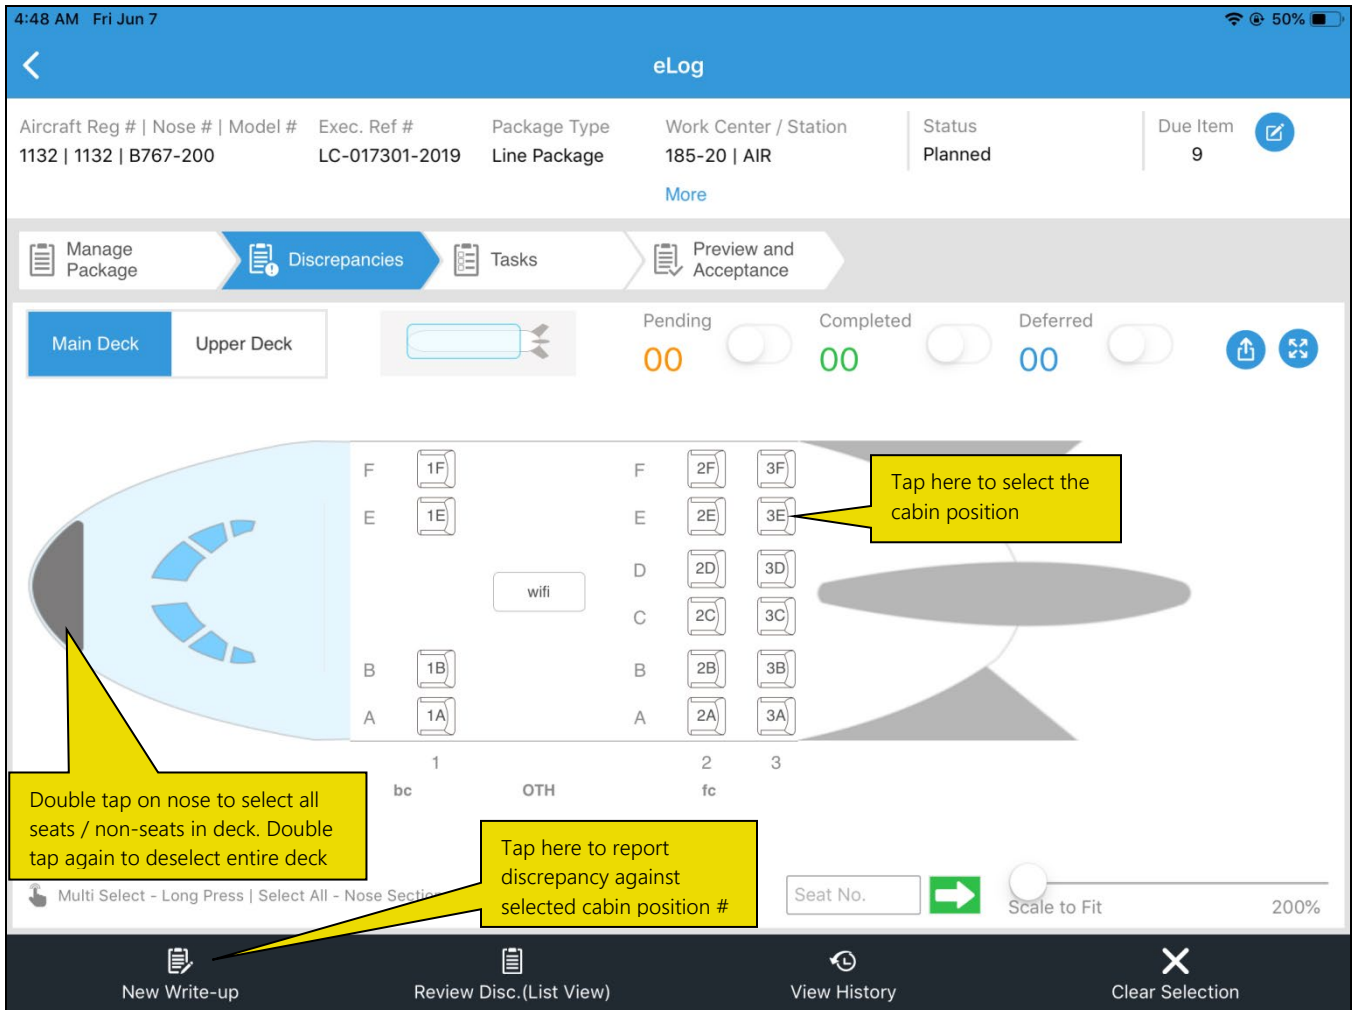

Figure 4.12: The LOPA view
1. Tap the **Discrepancies** tab in **E-Log** page. See Figure 4.12.